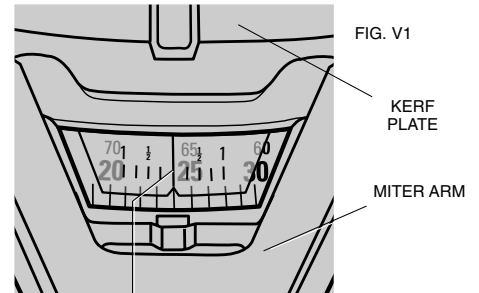

FIG. V1
#### VERNIER SCALE (FIG. V1, V2)
2. Set the miter angle to the nearest whole degree desired by aligning the center mark in the vernier scale, shown in Figure V1, with the whole degree number etched in the miter scale. Examine Figure V2 closely; the setting shown is 24 degrees right miter.